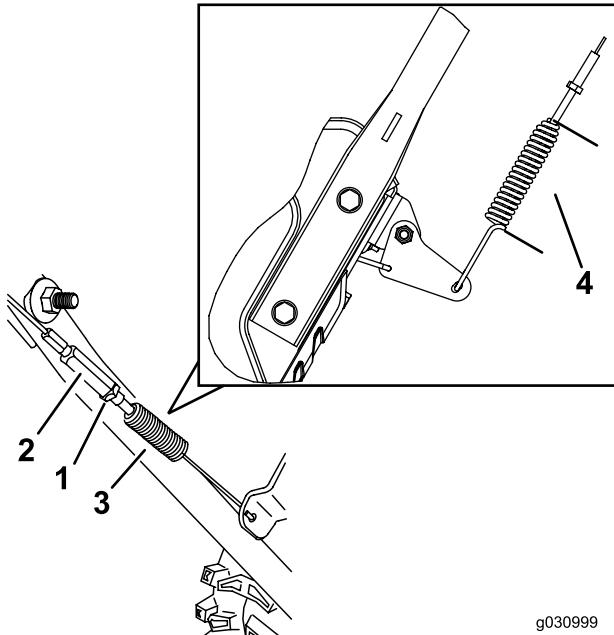

Figure 27
3. Loosen or tighten the turnbuckle to adjust the spring length to 5.5 cm (2-3/16 inches) as shown in Figure 27.
4. Tighten the jam nut (Figure 27), ensuring that there is slight tension on the cable.